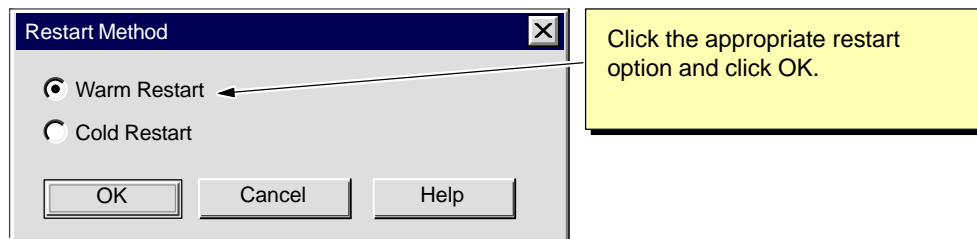

Figure 4-8 Selecting a Cold Restart or a Warm Restart
- When you use the **CPU** menu commands (**CPU > RUN** or **CPU > RUN-P**) to change the operating mode, WinLC RTX displays the “Restart Method” dialog box that allows you to select a cold restart or a warm restart. See Figure 4-8. Select the type of restart and click OK.